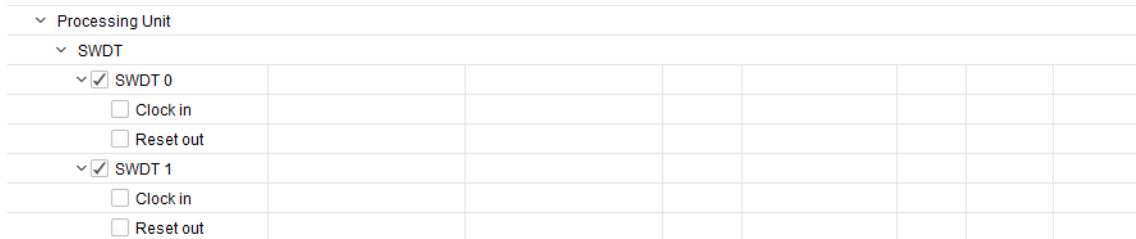

Figure 2-18: Configuring Processing Unit SWDT Pins
The PU SWDT can be used to reset the APU or the FPD. The RPU SWDT can be used to reset the RPU or the processing system (PS). These timers can be enabled, as shown in Figure 2-18.